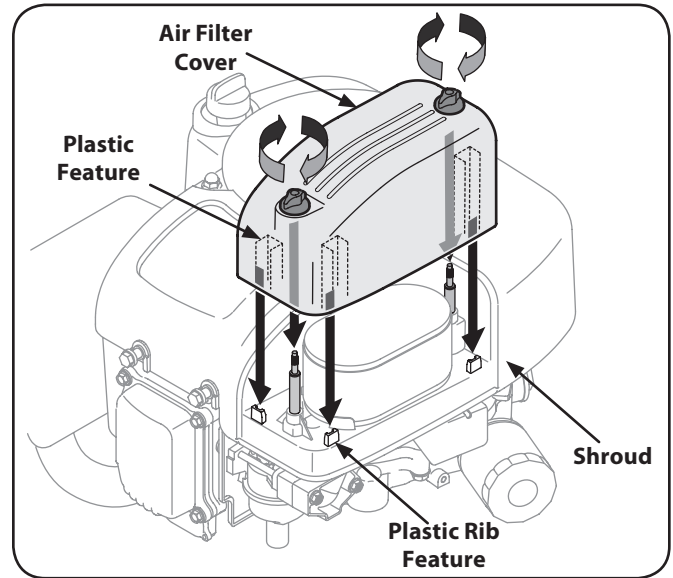

Figure 6-8
- Attach the air filter cover, making sure to align plastic rib features on the shroud to the plastic features on the air filter cover. See Figure 6-8. Turn thumb screws clockwise until snug. Check for any misalignment.